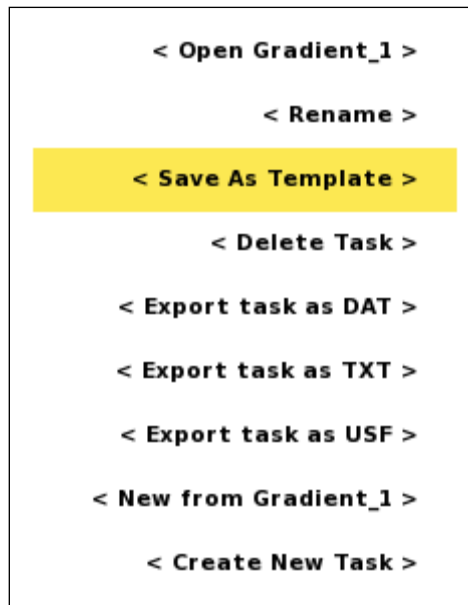

Figure 26 Task Option menu with the Save As Template item highlighted
- Move the highlight the <Save as template> item (Figure 26)